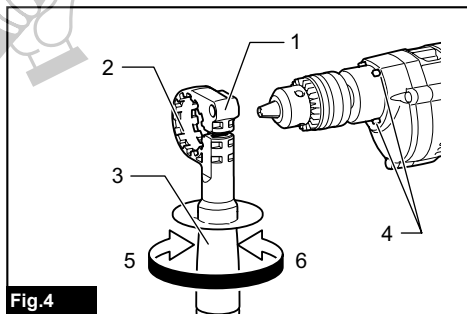

Fig.4
► **Fig. 4:** 1. Grip base 2. Teeth 3. Side grip (auxiliary handle) 4. Protrusion 5. Loosen 6. Tighten